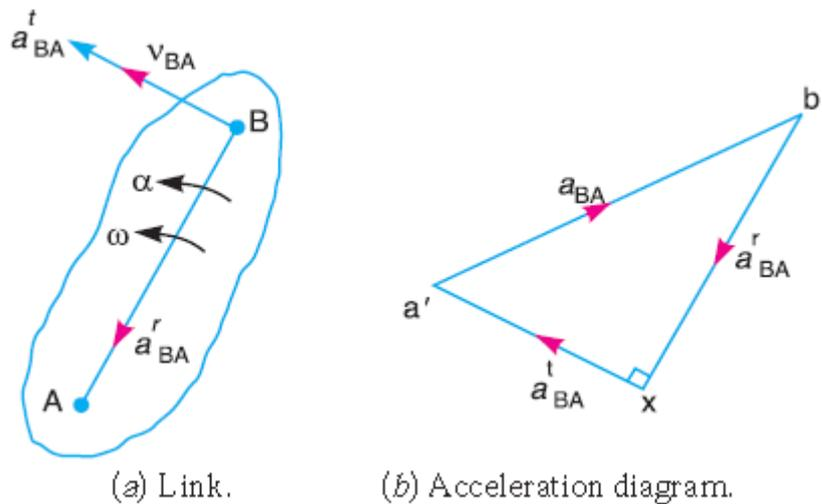

Fig. 3.16 Acceleration of a link
- In order to draw the acceleration diagram for a link A B, as shown in Fig. 3.16 (b), from any point  $b'$ , draw vector  $b'x$  parallel to BA to represent the radial component of acceleration of B with respect to A.